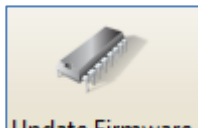

Figure 266 - Retrieve Door Setting
3. Tick the checkboxes to choose the controller and click on the controller settings to retrieve the data (Refer **Figure 266**).